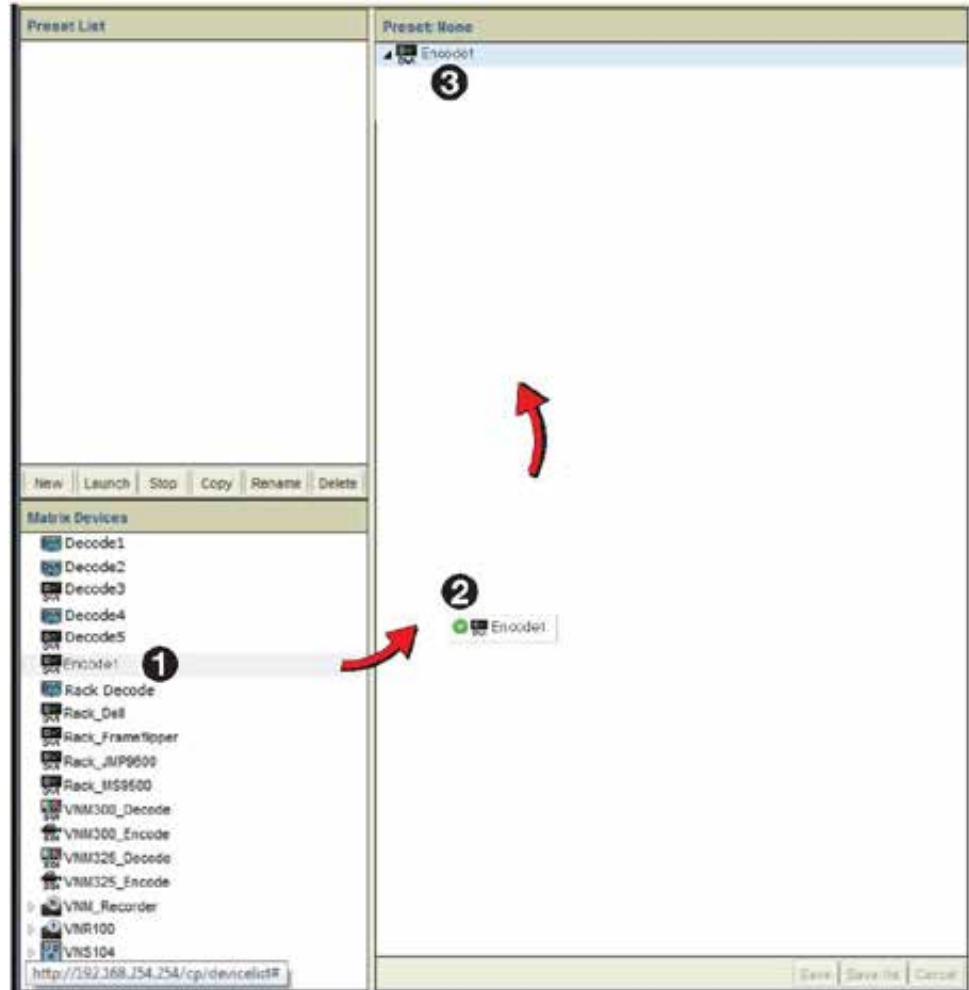

Figure 101. Preset Workspace, Place a Device
2. Add an encoder to the **Preset** panel. Click and hold the encoding device (see figure 101, ①).